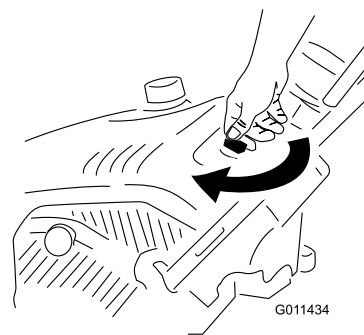

Figure 12
1. Turn the ignition key clockwise to the On position (Figure 12).